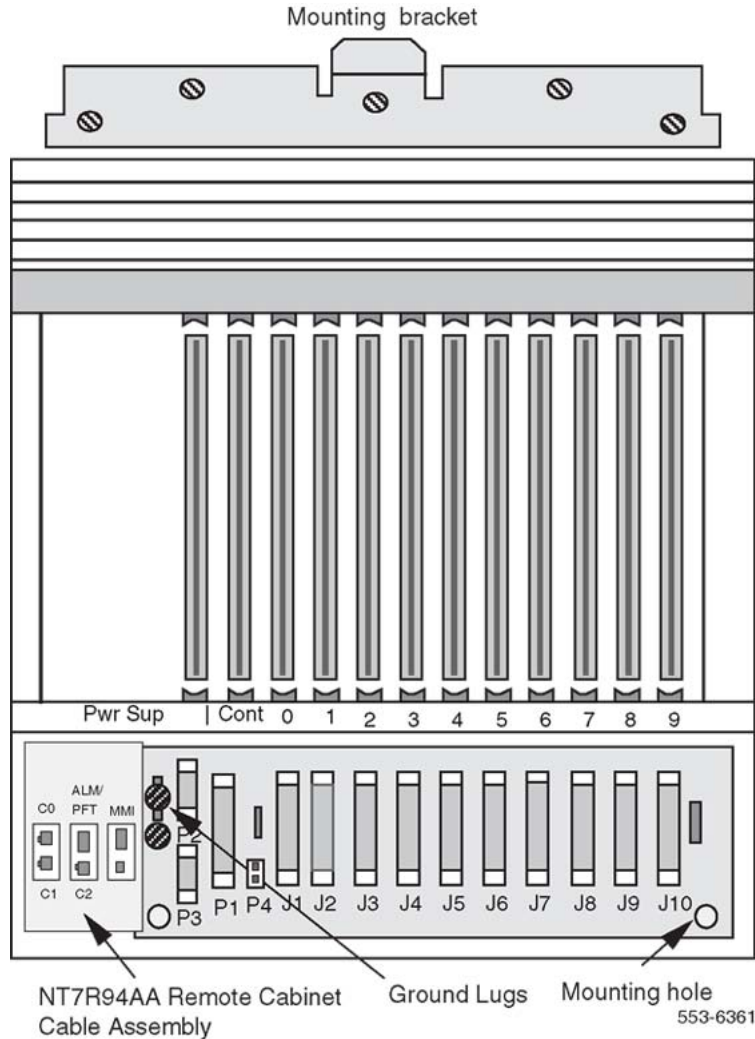

Figure 16: Carrier Remote IPE cabinet
2. Level and install the mounting bracket on the wall as shown in Figure 16: Carrier Remote IPE cabinet on page 94.
The slot is located at the top center of the cabinet as shown in Figure 16: Carrier Remote IPE cabinet on page 94.
See Figure 16: Carrier Remote IPE cabinet on page 94 for screw hole locations.
Figure 16: Carrier Remote IPE cabinet on page 94 shows the Carrier Remote IPE cabinet with the mounting bracket and the mounting holes. It also shows the ground lugs for ground connections.
Refer to Figure 16: Carrier Remote IPE cabinet on page 94 for card slot positions in the shelf.